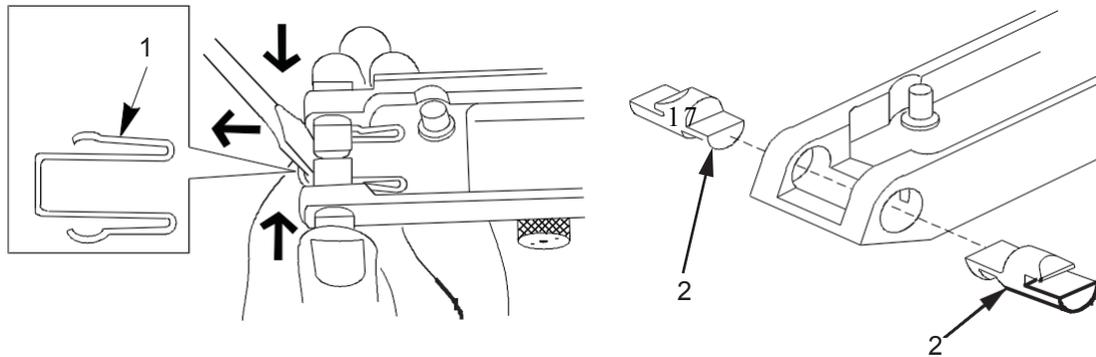

Figure 13. Cover Latches, Retaining Clip.
19. Compress cover latches (Figure 13, Item 2) and using flat tip screwdriver, pry out retaining clip (Figure 13, Item 1). Remove two cover latches (Figure 13, Item 2).
20. Visually inspect retaining clip (Figure 13, Item 1) for bends or breaks. Replace if damaged. Visually inspect cover latches (Figure 13, Item 2) for burrs or bends. Replace if damaged.